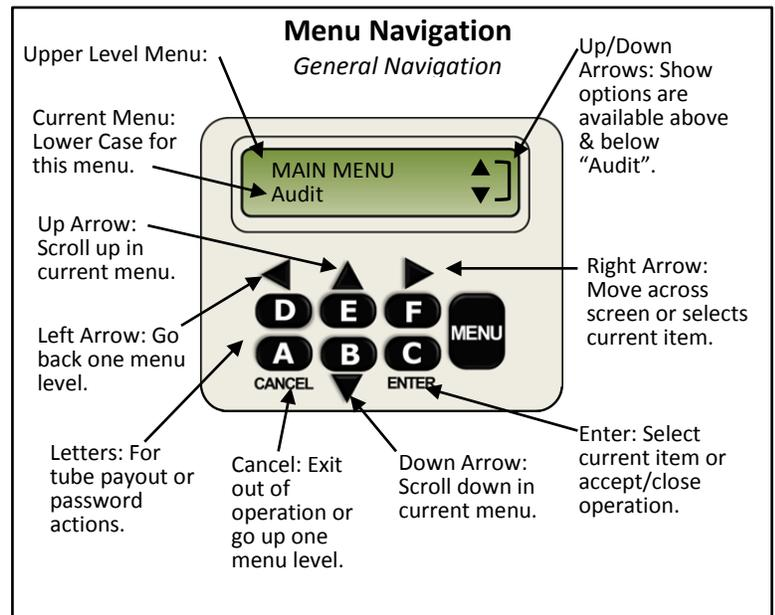

Figure 4. Navigating the Main Menu.
14. Pay out at least 2 coins from each tube to ensure proper operation. Press each coin tube Inventory Button (See Figure 4) to dispense coins.